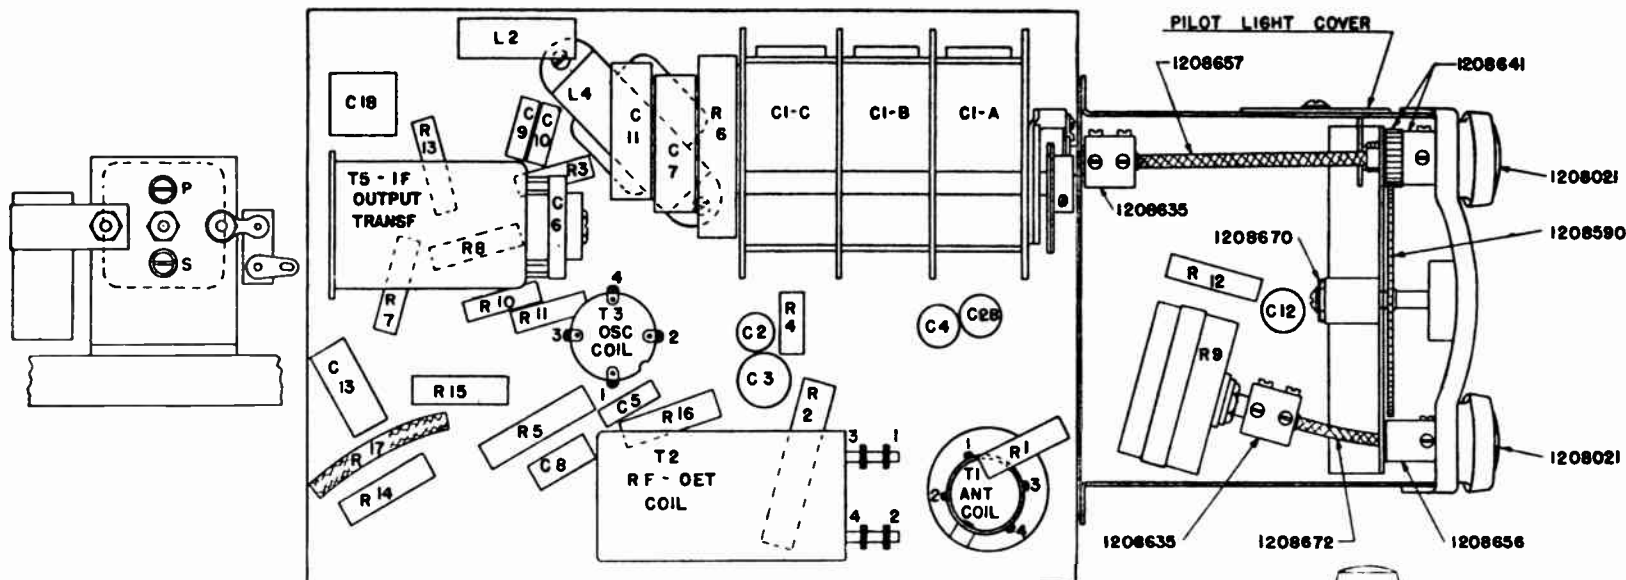

Fig. 7. Location of Parts Under Chassis.
- Loosen the four set screws in the variable condenser coupling (1208635 in Fig. 7).